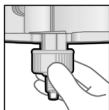

Fig. 4.1
5. When the Dynamix Mixing Tip is in the correct position (Fig. 3), push the Dynamix fixation ring over the Dynamix Mixing Tip until it stops and turn it clockwise (1/4 turn) until it is securely locked in place (Figs. 4.1, 4.2 and 5).